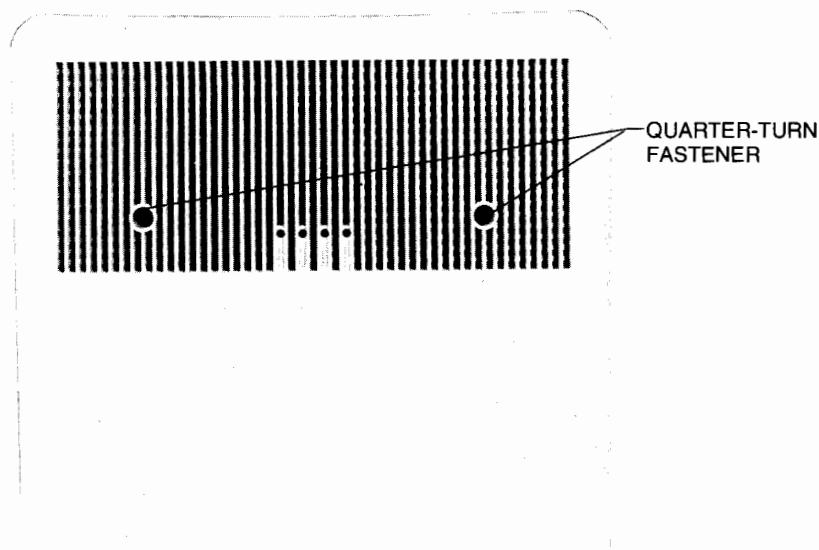

Figure 7-1. Terminal Top View
1. Using a small Phillips-head screwdriver, loosen the two quarter-turn fasteners securing top cover to mainframe (see figure 7-1). Do not overtighten the fasteners.